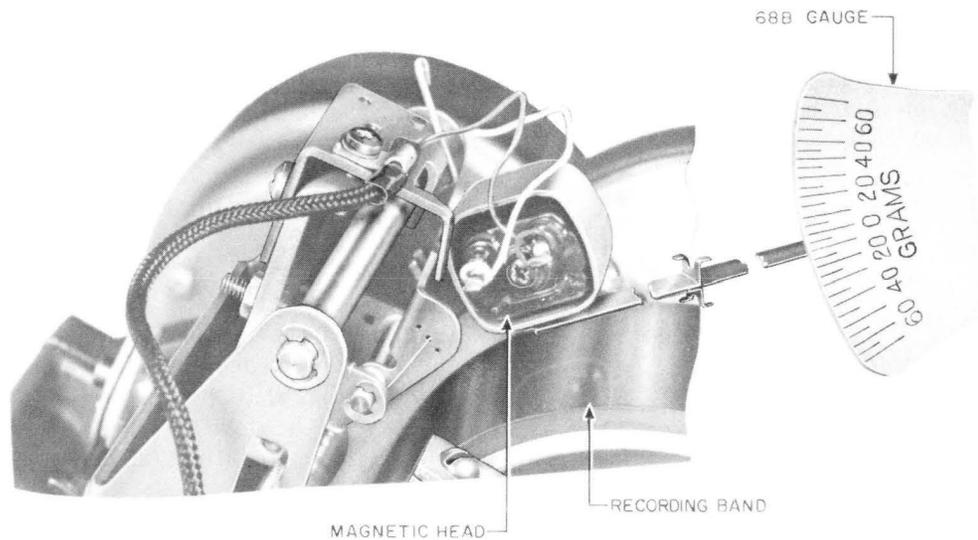

Fig. 10—Method of Gauging Magnetic Head Pressure
4.18 Magnetic Head Pressure: With the L1 solenoid electrically operated, the pressure of the magnetic head (Fig. 10) on the recording band shall be
Electrically operate the L1 solenoid. Insert the tip of the 68B gauge under the portion of the magnetic head directly to one side of the pole piece, as shown in Fig. 10, and measure the pressure just as the magnetic head leaves the band.